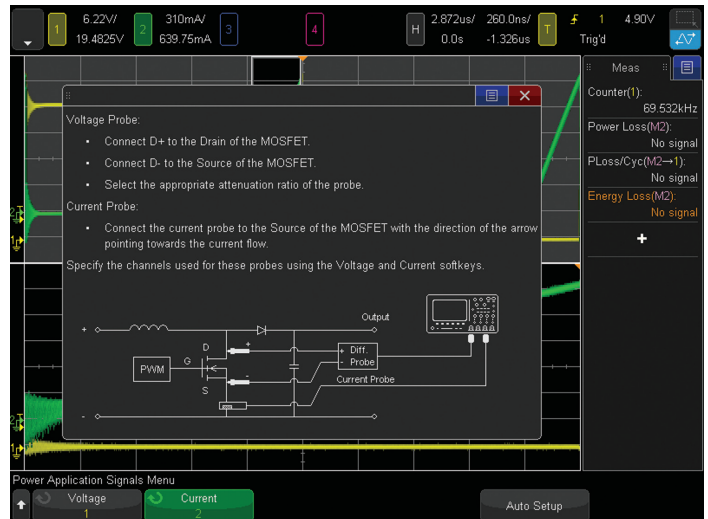

Figure 21: Slew Rate measurement connections diagram
4. Press the Signals softkey; then connect the N2790A voltage probe between channel-1 of the scope to the drain/collector (red lead) and source/emitter (black lead) of your switching transistor as illustrated in the on-screen connections diagram of Figure 21. If using Keysight's SMPS training kit, connect to TP3 (red lead) and TP4 (black lead).